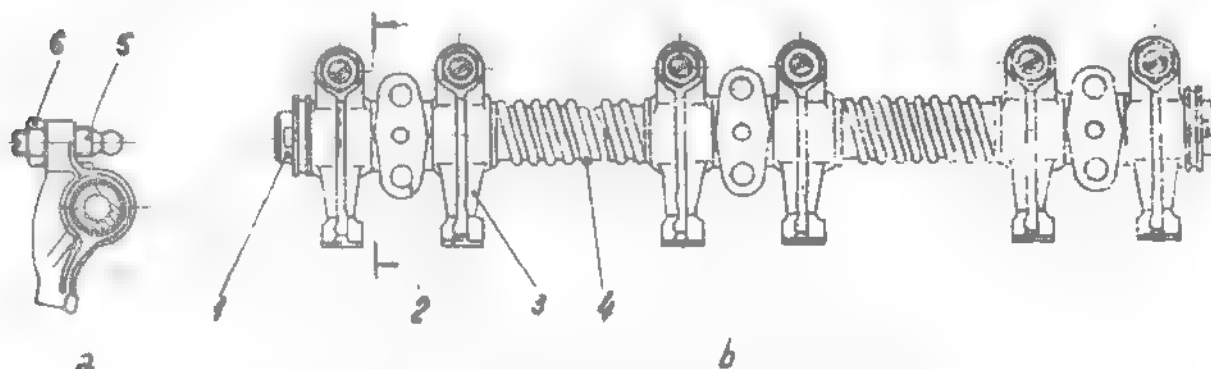

Fig. 4.49. ROCKER ARM SHAFT (Assy)
- In case it should be necessary to remove both plugs from ends of shaft, bore a holethrough one plug, introduse a rod through the hole and thrust plug from the other end. Introduce rod in the latter and thrust out remains of the first plug (see Fig. 4.49).
- Introduce a split pin at one end of shaft, fit on a washer, a spring washer and again a washer. Mount the rocker arms, supports and spacer springs in the order shown in Fig. 4.49.